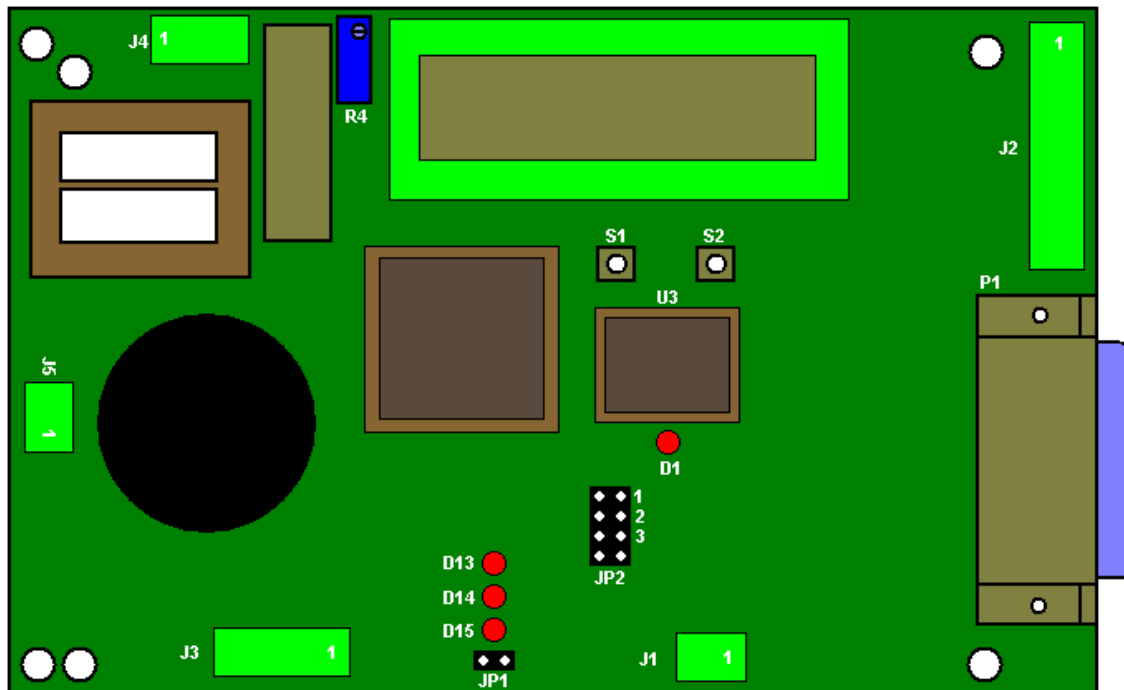

Figure 2
2. The new Absolute Encoder replacement PCB will mount to the existing holes from the old board. Install the new board so the LCD display is at the top edge of the PCB. Refer to Figure 2 below for proper orientation.